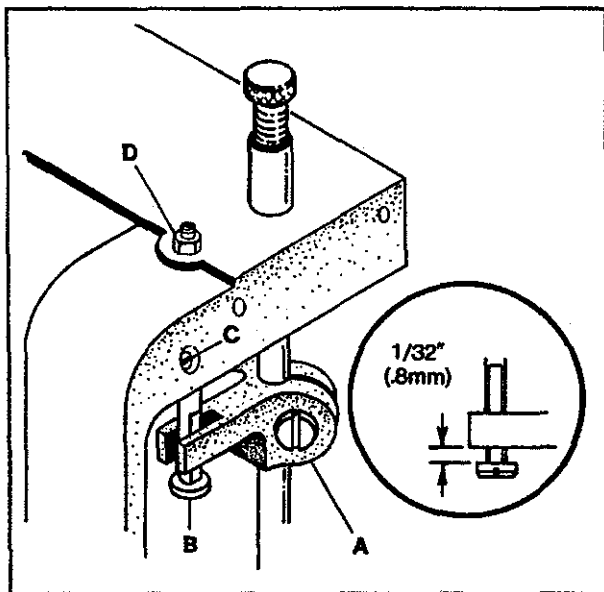

FIG. 36
Turn handwheel in operating direction until the feed dogs are below the throat plate surface. At this time there should be a $1/32$ " (0.8mm) clearance between the bottom of presser bar guide (A, Fig. 36) and presser bar guide stud (B). Loosen screw (C) and turn nut (D) as required. Tighten screw (C). When sewing on extremely lightweight material and/or feed cutting is a problem, the presser foot may be "hung" by raising stud (B) until guide (A) rests on the shoulder of stud (B). This adjustment will raise the presser foot slightly, so only the pressure of the presser foot shoes contact the material.